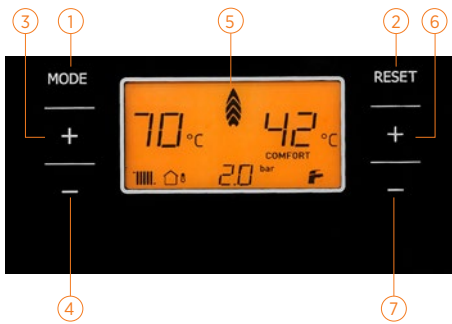

Figure 47 Control panel of Minerwa 25 Combi Boiler
At that position, combi boiler operates both for heating the environment and providing Domestic Hot Water. Radiator (CH) temperature adjustment is made with (3) and (4) numbered buttons in Figure 47, Domestic Hot Water temperature adjustment is made with (6) and (7) numbered buttons and this temperature is indicated with (9) numbered indicator for Radiator (CH) and with (11) numbered indicator for Domestic Hot Water.